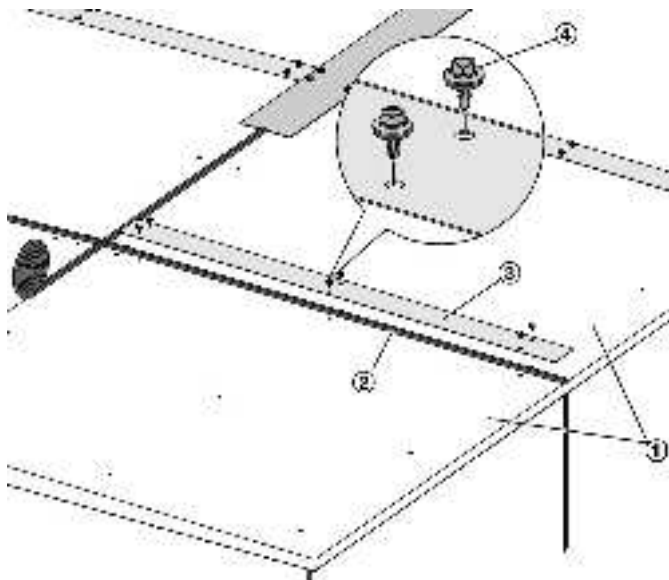

Fig. 20: Joining roof segments
1. ▶ Seal all joints between the roof segments (Fig. 20 /1) with self-adhesive joint sealing tape (Fig. 20 /2). Follow the tape manufacturer's instructions for use. Attach the cover strips (Fig. 20 /3) and fix them with self-drilling screws (Fig. 20 /4).